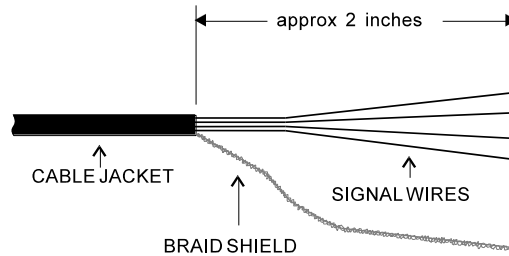

Figure 1-6: Tonnage Sensor Cable Stripping
- 1) Strip the sensor cable as shown in Figure 1-6 below. Be sure not to nick any of the signal conductors or cut the braid shield.